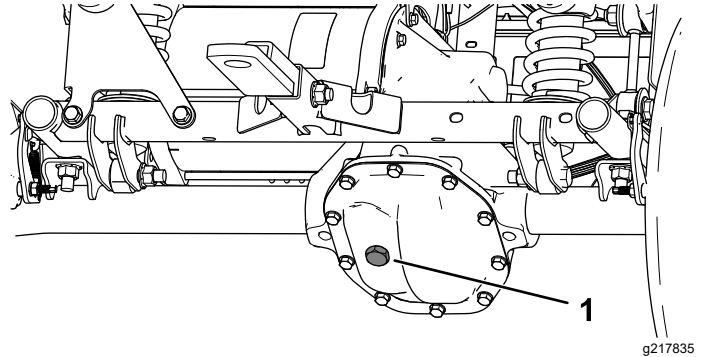

Figure 47
4. Remove the fill plug on the transaxle (Figure 47).
5. If the fluid level is low, remove the fill plug and add the specified fluid until it runs out of the hole (Figure 47).
4. Remove the fill plug on the transaxle and fill the transaxle with the specified fluid until it runs out of the fill hole (Figure 47).